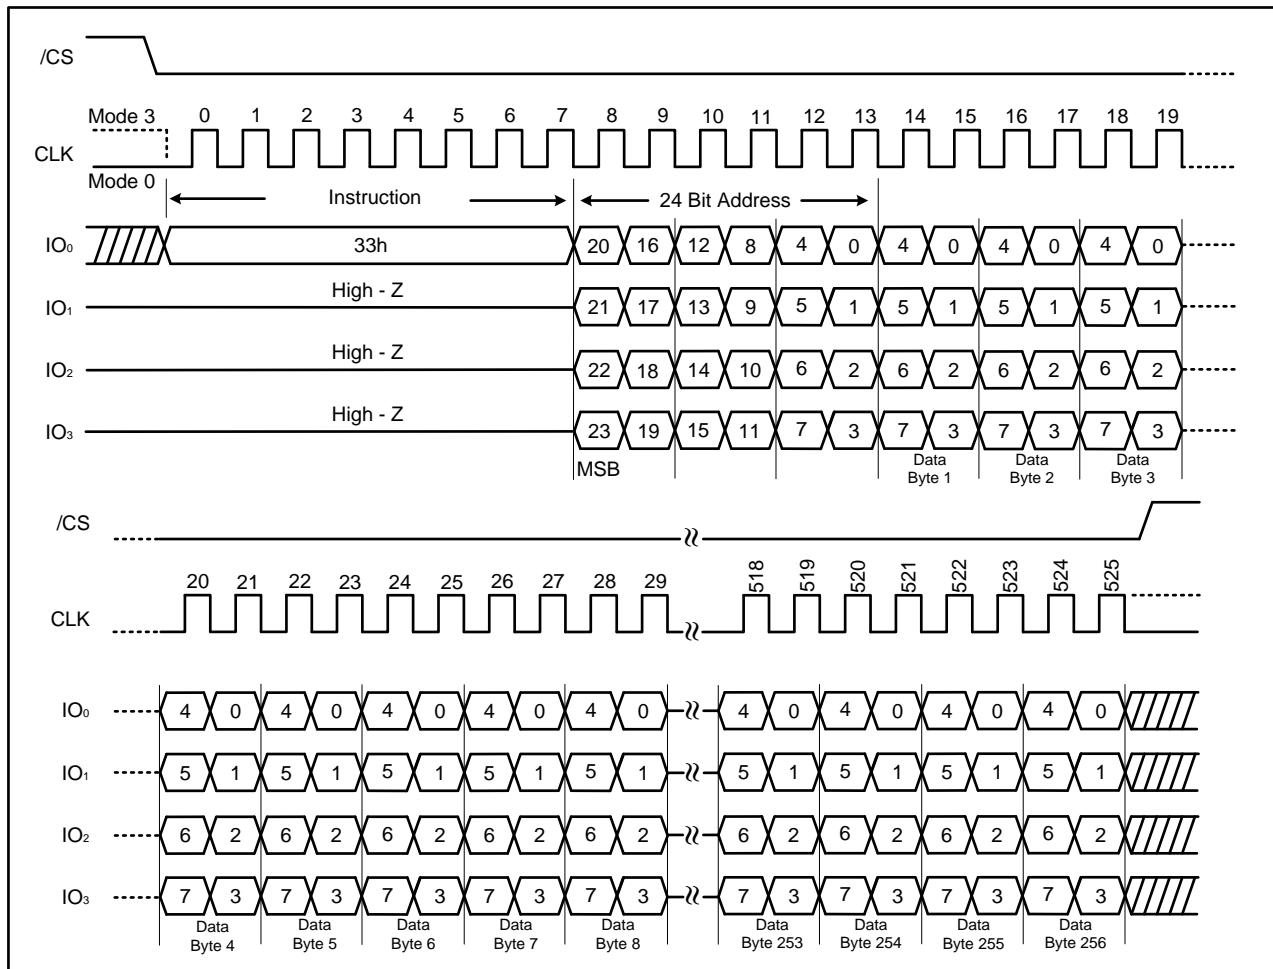

Figure 21. Quad Page Program Instruction (SPI Mode only)
The Quad Page Program (33h) instruction is similar to the Quad Input Page Program (32h) instruction except that address and data bits are both input and output through four pins IO₀, IO₁, IO₂ and IO₃. The Quad Page Program can improve performance for PROM Programmer and applications that have slow clock speeds <5MHz. Systems with faster clock speed will not realize much benefit for the Quad Page Program instruction since the inherent page program time is much greater than the time it take to clock-in the data. To use Quad Page Program the Quad Enable (QE) bit in Status Register-2 must be set to 1. The Quad Page Program instruction sequence is shown in Figure 21.